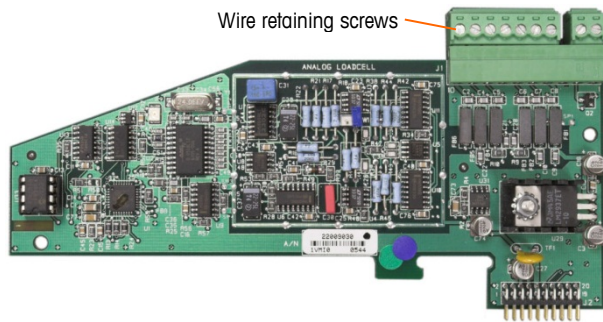
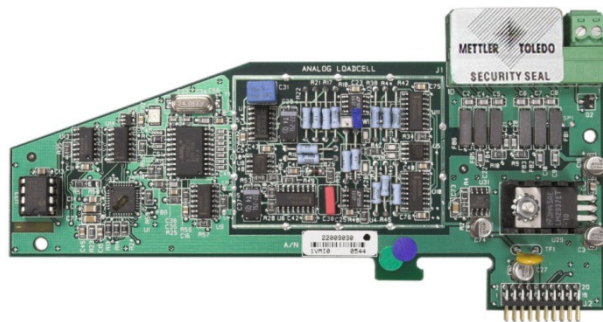

Figure A-108: Unprotected Option Board Connection
Figure A-109: Security Seal Installed
3. To protect the load cell interconnecting cable/s (attached to option boards), a security seal must be placed over each connector to ensure that it is not removed or disconnected. The seal also prevents access to the wire retaining screws indicated in Figure A-108. Figure A-109 shows a seal in place.